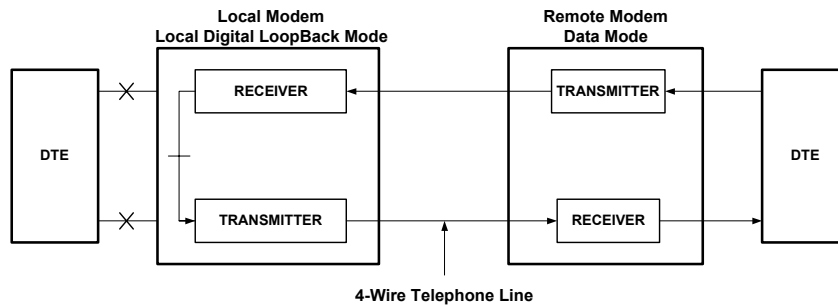

Figure 3-2. Digital Loopback Test
- ❖ **DL** (Digital Loopback) — this position configures the modem to loop back received data to the transmitter and transmit the data to the remote end. The RS-232-C interface to the terminal is not active during this test. See Figure 3-2.